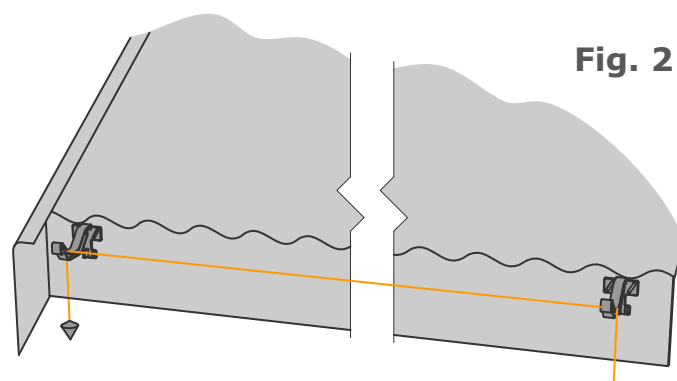

Fig. 2
2. Fit a second bracket at the opposite end of the fascia, using a builder's line and spirit level to ensure correct bracket alignment and an adequate fall to the outlet (1 in 600 fall). Fig. 2.